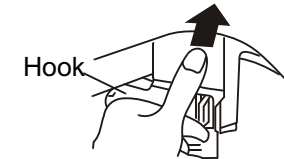

Figure 2
- (1). Install the corrugation pipe.
- (2). Insert the mounting plate at the bottom of the filter into the valve cover.
- (3). Hang up the hook at the left upper side.
- (4). Push the upper part in as indicated in Figure 2.